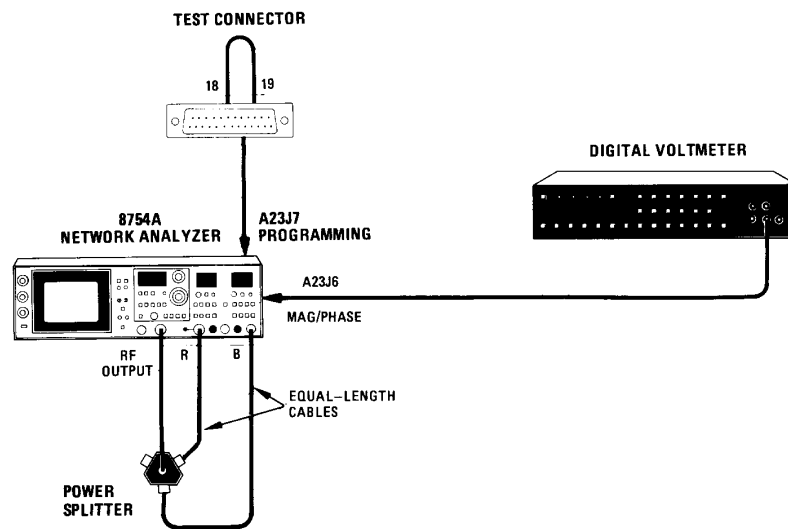

Figure 4-25. MAG/PHASE Output Accuracy Test Setup (Phase)
7. Connect equipment as shown in Figure 4-25. Connect test connector, with jumper between pins 19 (REM MAG/PH) and 18 (ground), to rear-panel PROGRAMMING connector A23J7.